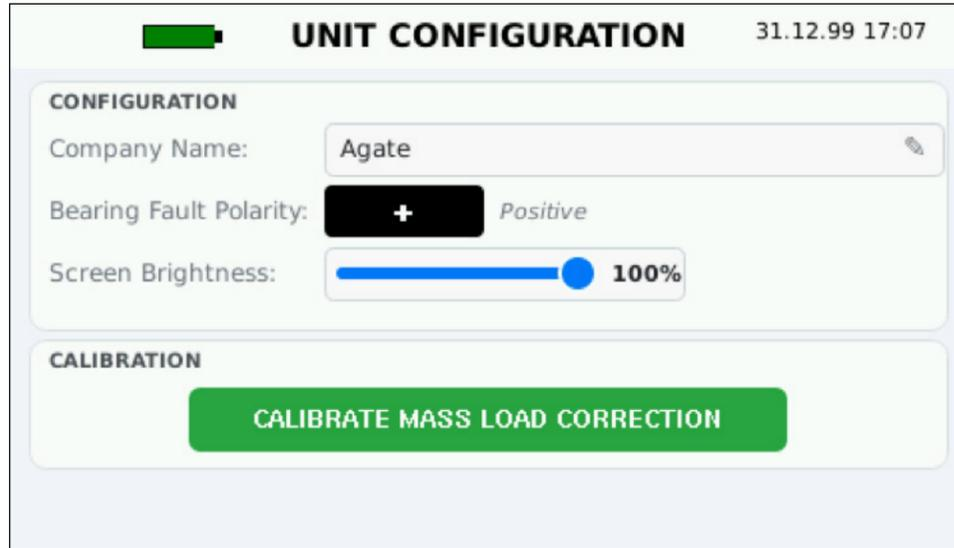

Figure 33
2. On the Unit Configuration screen (*Figure 33*), you can change the company name, change the bearing fault polarity to positive or negative, adjust the screen brightness, or calibrate the mass load correction:
2. Enter the company name (*Figure 33*).
1. On the Unit Configuration screen, select the **- / + button** next to Bearing Fault Polarity to toggle the signal polarity between negative and positive (*Figure 33*):